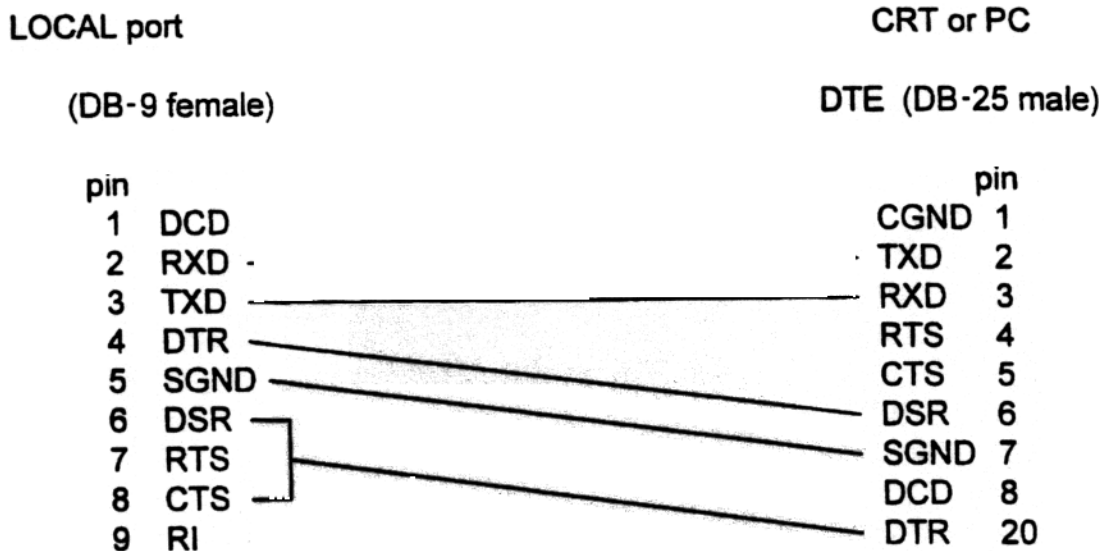
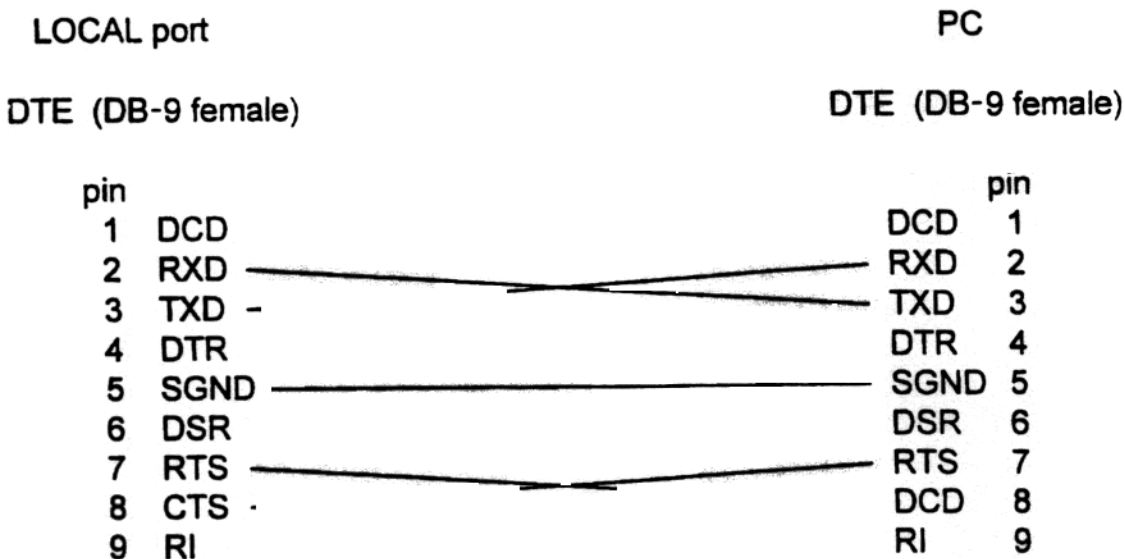

Figure 5-1. LOCAL Port Cable Wiring (9-pin to 25-pin)
Figure 5-2. LOCAL Port Cable Wiring (9-pin to 9-pin)
- Connect the terminal to the front panel LOCAL port using the appropriate cable with wiring as shown in Figure 5-1 or Figure 5-2.